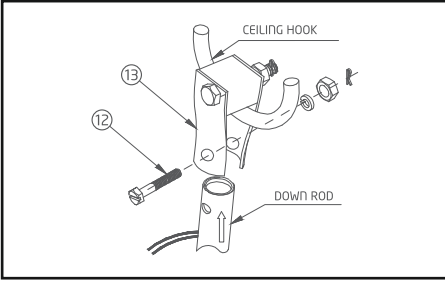
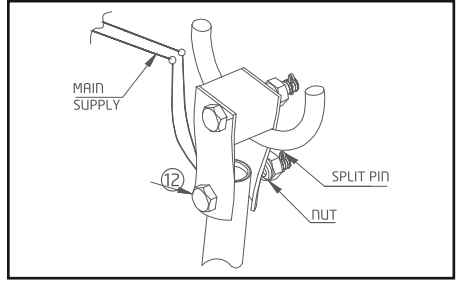

Figure 8
Figure 9
Unscrew the shackle kit bolt (12) and insert the shackle kit (13) into the ceiling hook. Insert the down rod into shackle kit. See Figure 8. Insert the shackle kit bolt (12) and tighten with nut. Lock the split pin and connect the supply wires to main supply. Attach ground wire eyelet to the Shackle – see ground wire symbol. See Figure 9.